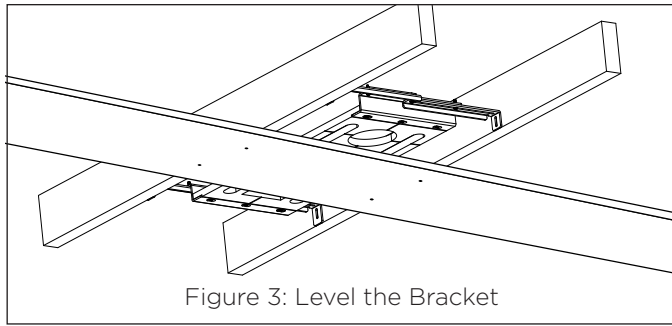

Figure 3: Level the Bracket
5. Use a block of wood to level the bracket with the joists on each side, ensuring that the bracket is even (see Figure 3).